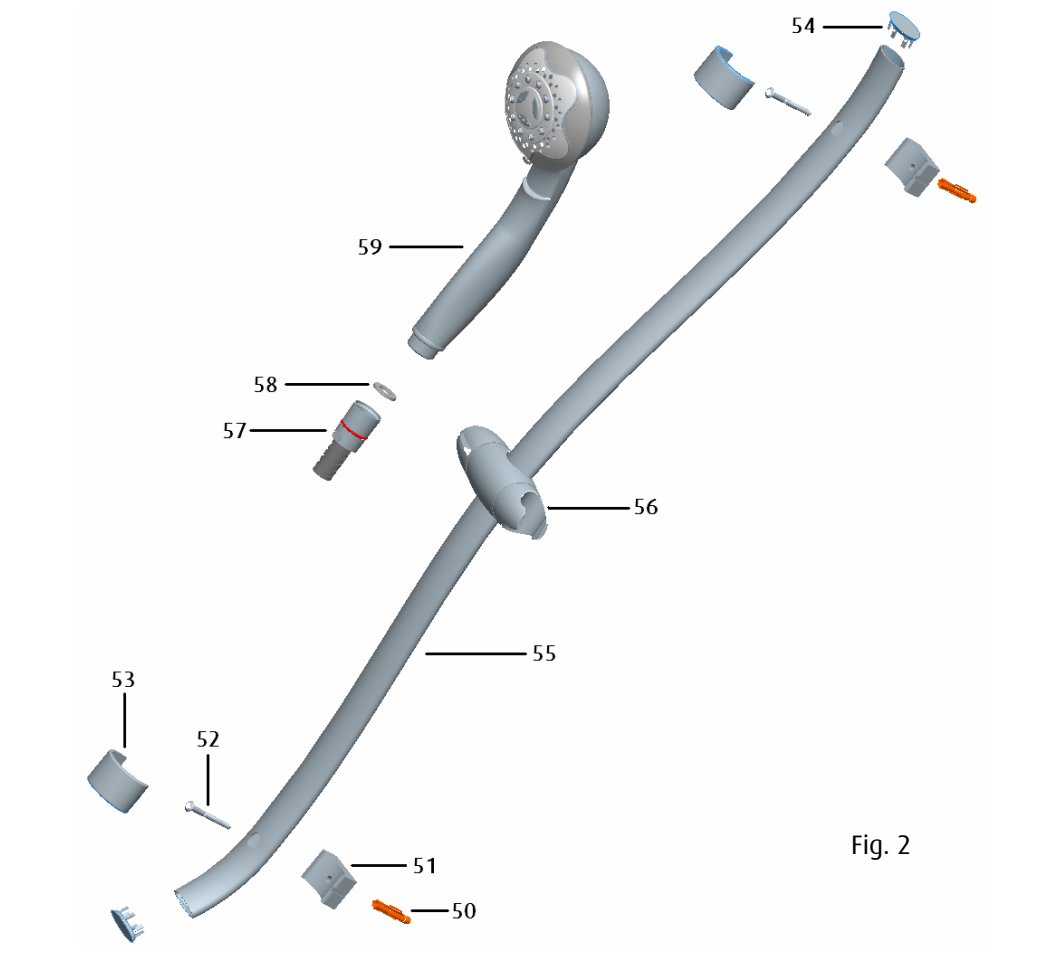

Fig. 2
4.6 Adjustable Riser Installation (See Fig. 2)